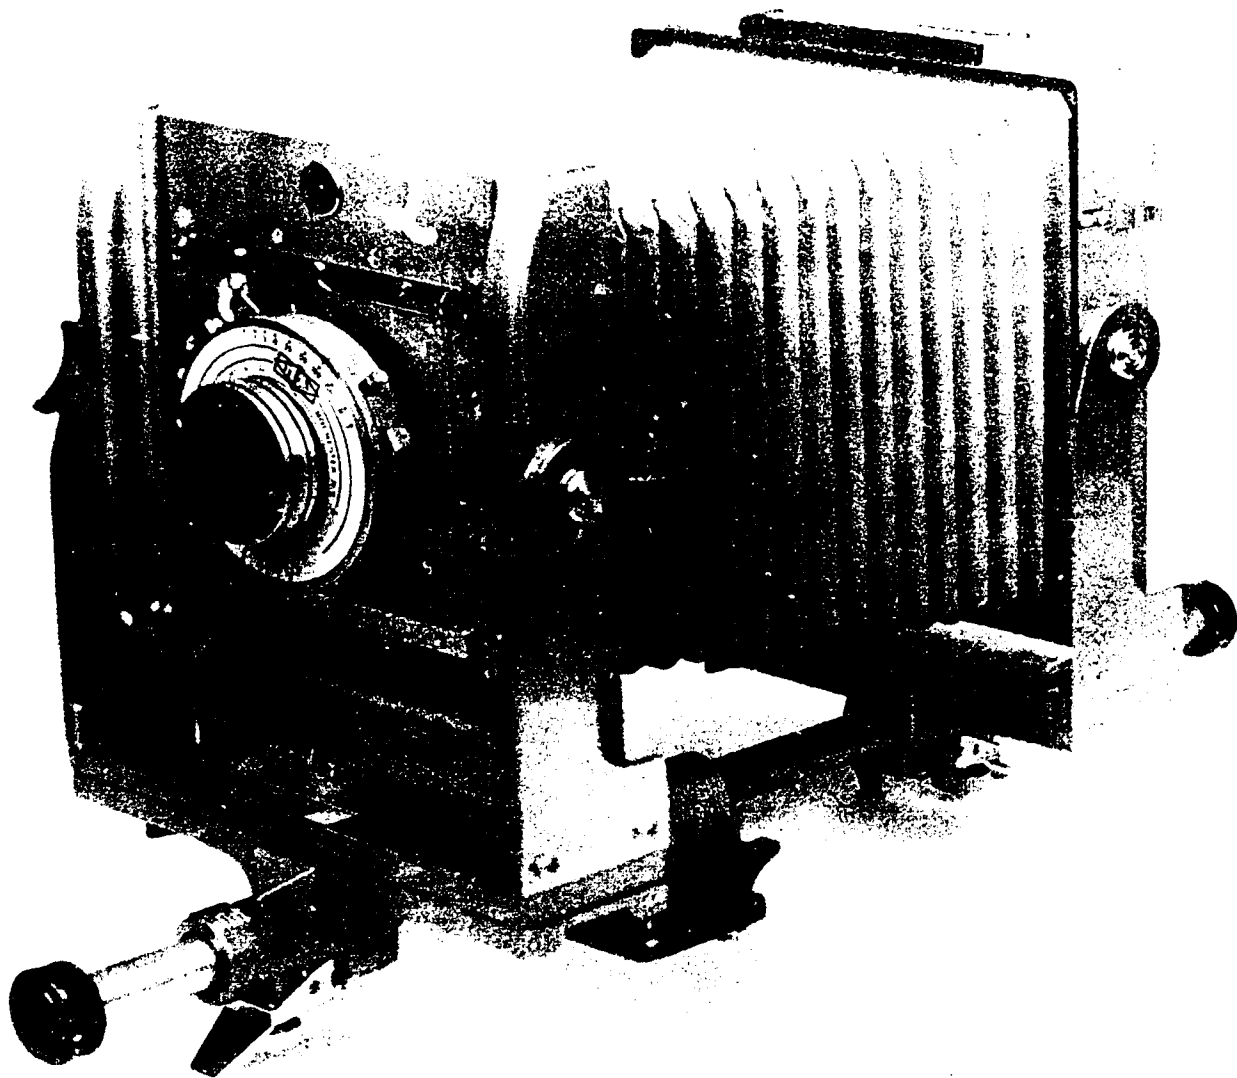

Figure 2-18. A view camera.
**Camera Operation.** As we said earlier, the view camera (fig. 2-18) is the best choice for architectural photography. The reasons are wrapped up in its adjustments. Their functions are discussed in the following paragraphs.